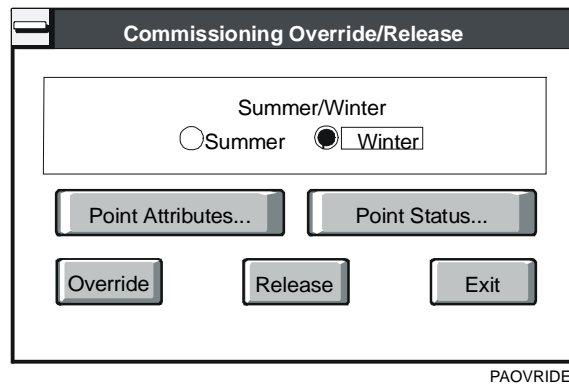
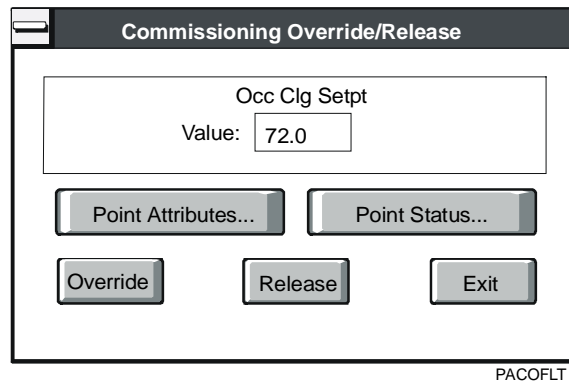

Figure 9-8: Binary Parameter Override/Release Dialog Box
Figure 9-9: Float Parameter Override/Release Dialog Box
1. Double-click on the parameter you want to change. The Override/Release box displays. For binary parameters, the dialog box resembles Figure 9-8, while for float parameters, the dialog box resembles Figure 9-9.